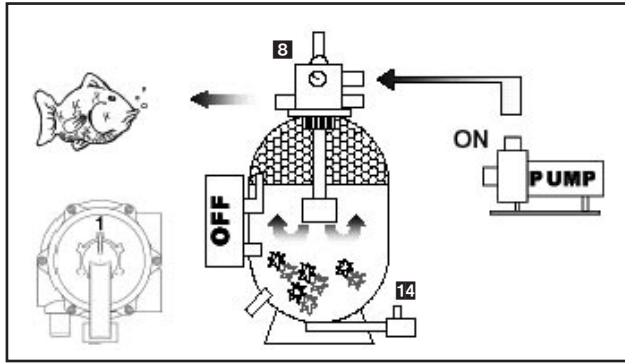

Figure 3
5) Restoring the Filter Function (Fig. 3)